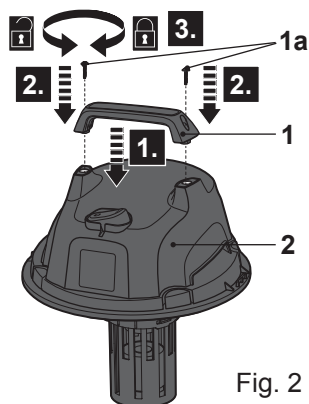

Fig. 2
- > Align the mounting holes and assemble the transportation handle (1) onto the motor unit (2).
- > Secure the connection with the screws (1a), using a suitable crosshead screwdriver (Fig. 2).